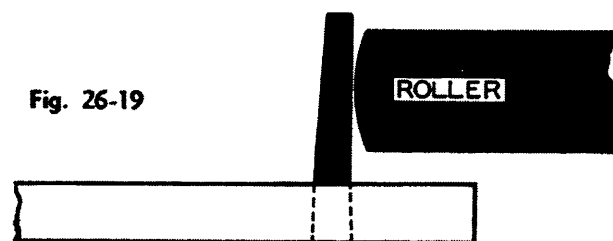

Fig. 26-19
6. Cut pin slightly longer than the top edge of roller table, figure 26-19, and stone flat with arkansas slip.